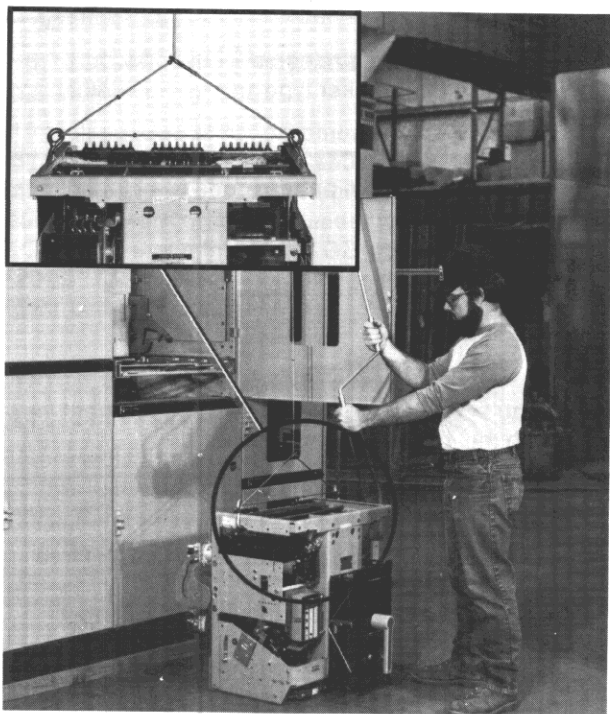

Fig. 5-5. Pay out hoist cable. Attach hoist to circuit breaker
1. Carefully place the breaker in front of the section in which it is to be installed. See Fig. 5-5.